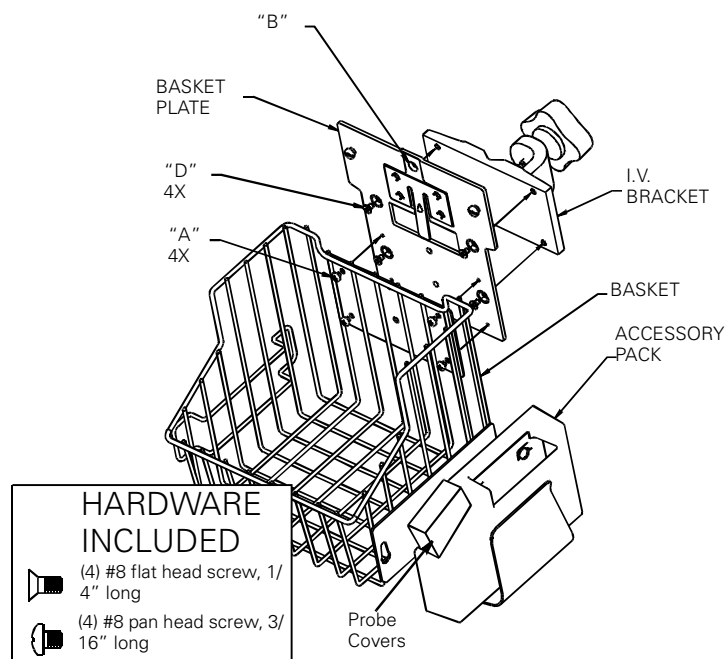

FIGURE 2
Refer to figure 2 for the following instructions)
2. Assemble BASKET to BASKET PLATE by inserting (4) #8 x 3/16" long phillips screws through basket holes marked "A" and into four threaded holes in BASKET PLATE. Securely tighten screws.
3. For Model #5200-62 only, attach ACCESSORY PACK by orienting as shown in figure 2 and inserting onto side plate of BASKET and pushing up. This will lock ACCESSORY PACK onto BASKET.
1. Attach BASKET PLATE to I.V. BRACKET by inserting (4) #8 x 1/4" long flat head phillips screws through four countersunk holes, designated "D", into four threaded holes in bracket. Securely tighten screws.
3. For Model #5200-64 only, attach ACCESSORY PACK by orienting as shown in figure 2 and inserting onto side plate of BASKET and pushing up. This will lock ACCESSORY PACK onto BASKET.